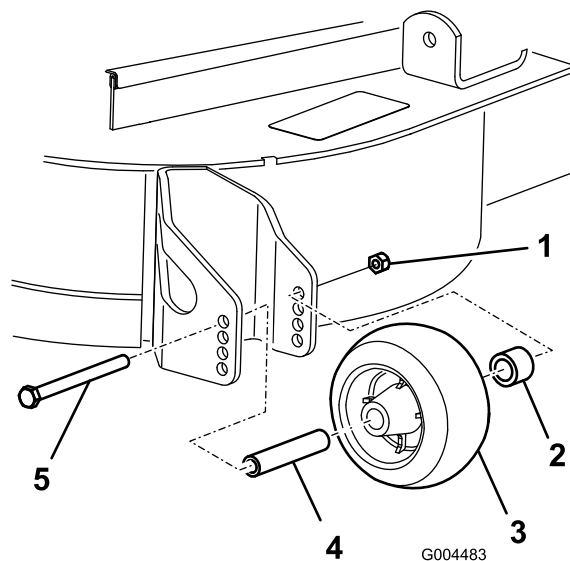

Figure 18
3. After adjusting the height-of-cut, adjust the rollers by removing the flange nut, bushing, spacer, and bolt (Figure 18).
5. Install the flange nut bushing, spacer, and bolt. Torque to 40-45 ft-lb (54-61 N·m) (Figure 18).